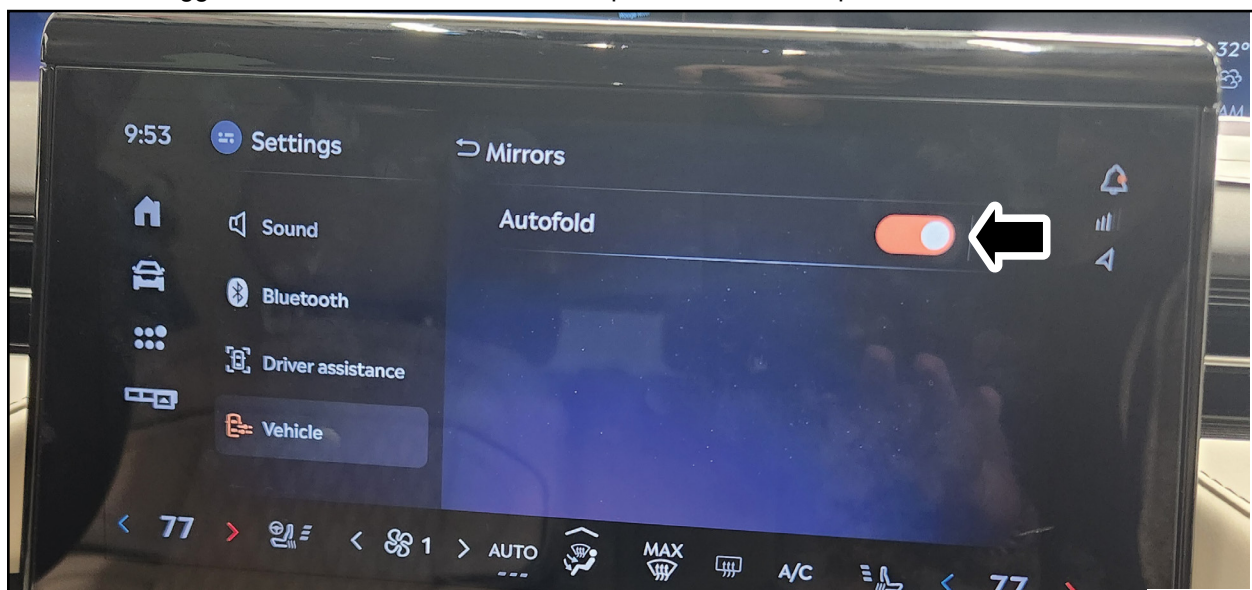

FIGURE 1
19. Select **Mirrors**. Is the Autofold switch turned ON? See Figure 1.